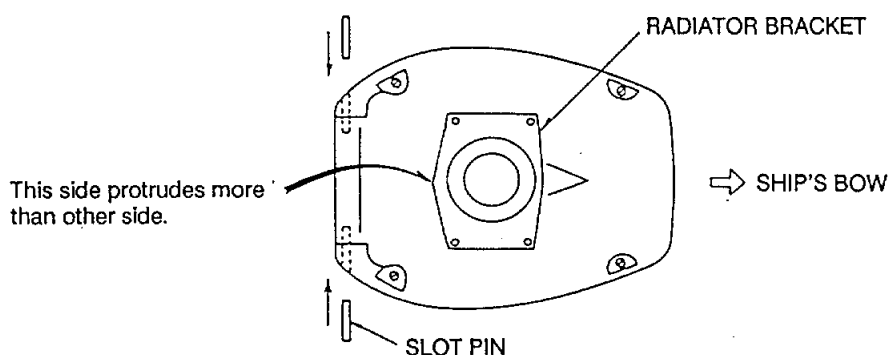

Figure 6-6 Slot Pin Insertion
3. Now is the time to fix the radiator to the radiator bracket. Remove the rubber cap on the radiator bracket and orient the radiator bracket as shown in Figure 6-6. Referring to Figure 6-7, apply grease to the O-ring and set it to the center of the radiator bracket. Coat the radiator fixing bolts with silicone sealant. Fix the radiator to the radiator bracket with the FURUNO logo on the radiator facing ship's bow.